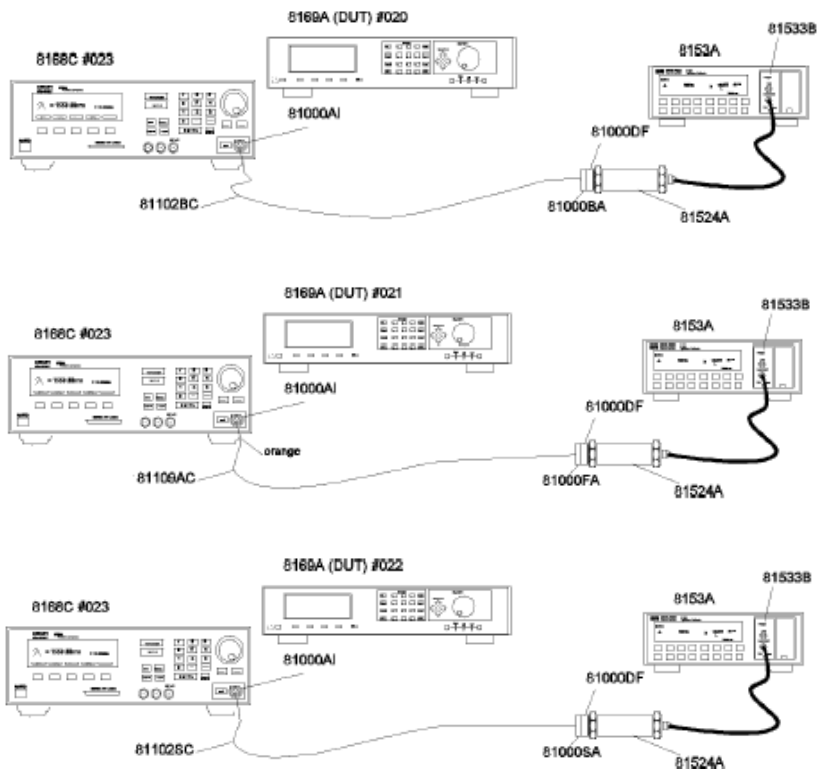

Figure 26 Test Setup for Measuring the Reference Power If you're testing an option #020 you need to cut the spliced patchcords first
- 8 Repeat list item 6 to list item 7 for the wavelengths between 1480 to 1570 nm in steps of 10 nm, always setting the 8168A and the 8153A to the required wavelength for each setting.
- 9 Repeat list item 6 to list item 7 again for 1470 nm to ensure stability of measurement setup. If your measured value is more than .01dB off the previous value, you need to fix your setup and repeat list item 3 to list item 8.
- 10 Connect the 8168A's output to the 81524A Optical Head as shown in Figure 26